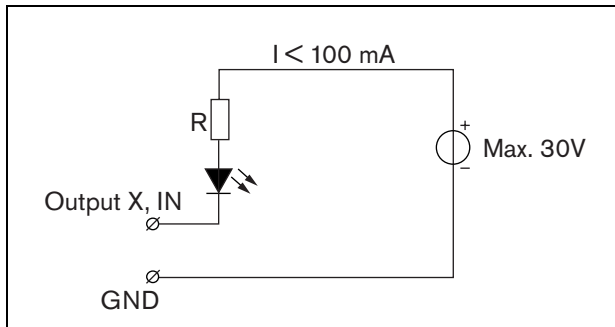

figure 16.5: Externally powered LED
- Externally powered lamp or LED. See figure 16.5 for a connection diagram.
The value of resistor R in figure 16.5 depends on the voltage of the external source, the forward voltage of the LED and the current flowing through the LED: